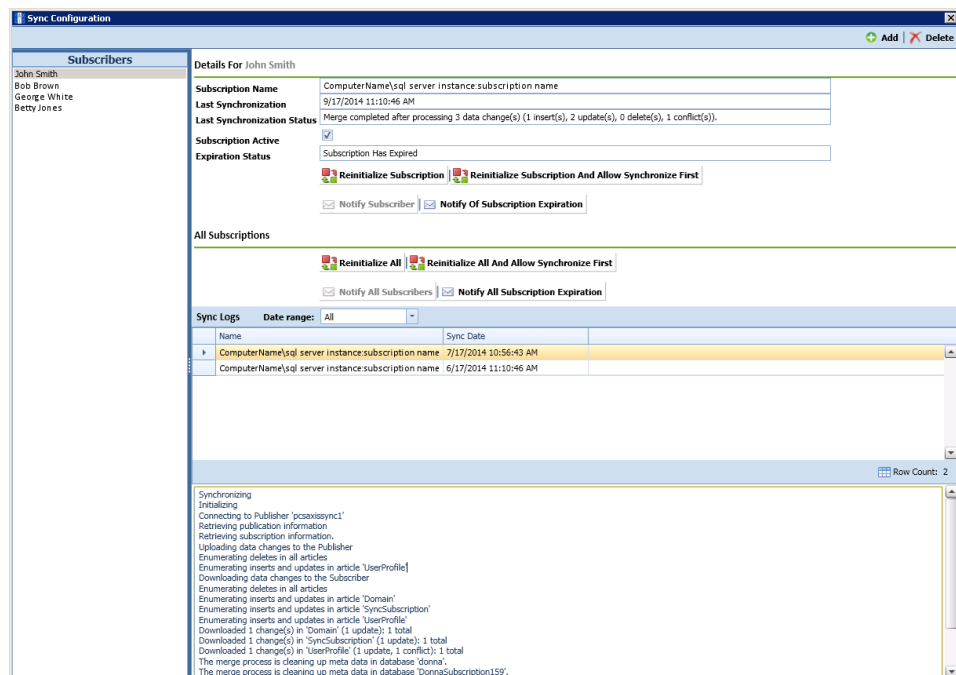

Figure 17-13. Sync Configuration
- 1 Click **Tools > Synchronization > Synchronization Configuration** to open the *Sync Configuration* window (Figure 17-13).